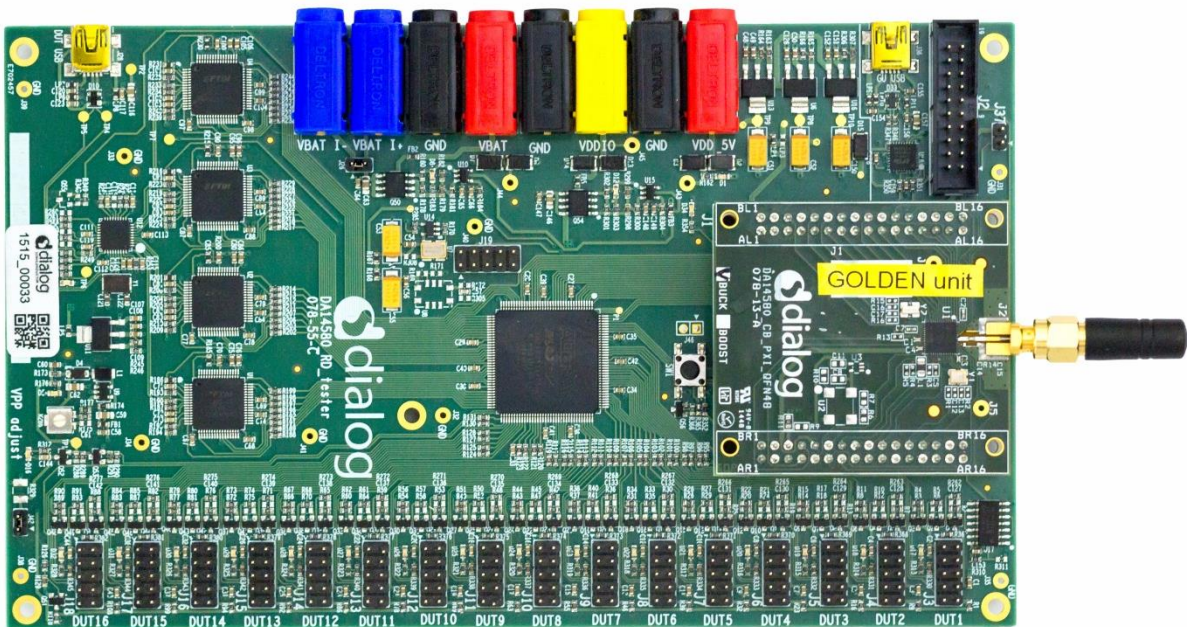

Figure 1: Production Line Tool Hardware
- Main board (Figure 1) together with a DA14580-QFN48 Golden Unit.